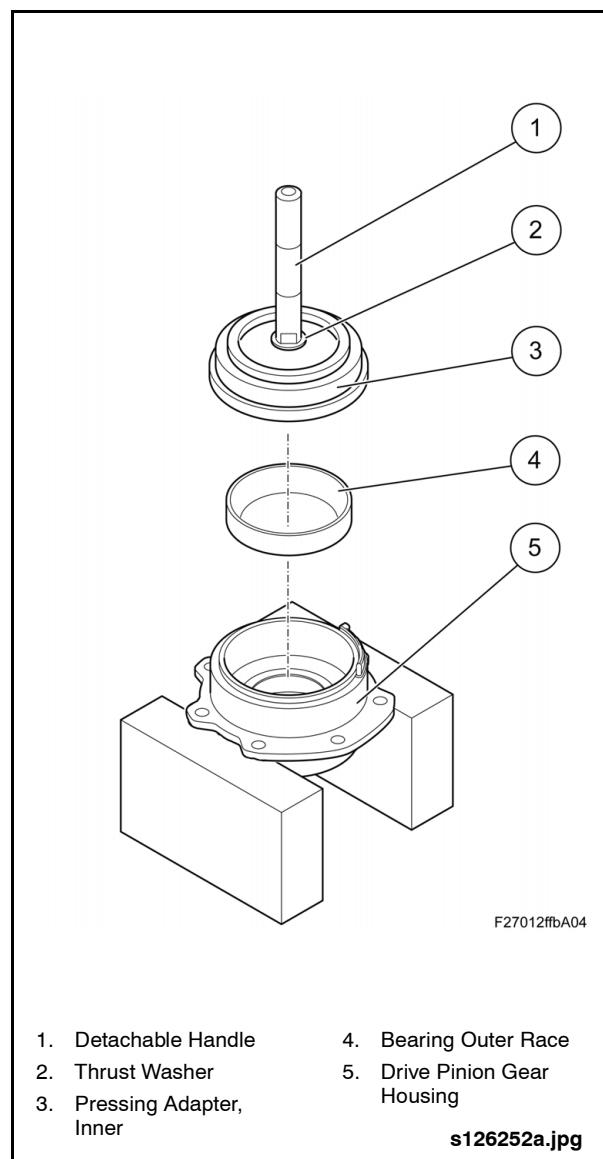

Fig. 2-97: Installing Inner Bearing Outer Race
2. Assemble the Inner Pressing Adapter with the Detachable Handle and Thrust Washer (Items 94, 33 & 15 from Special Tools List). See “Fig. 2-97: Installing Inner Bearing Outer Race” on page 76.